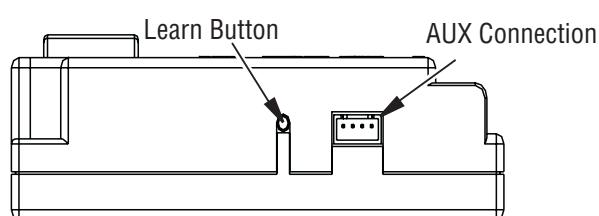

Figure 27 - Gas Module Left Side
1. There is a switch located on the right side of the module that reads REMOTE/OFF (Figure 27).
- To program the module (make sure the system has power), locate the learn button on left side as shown in **Figure 27, Page 15**.